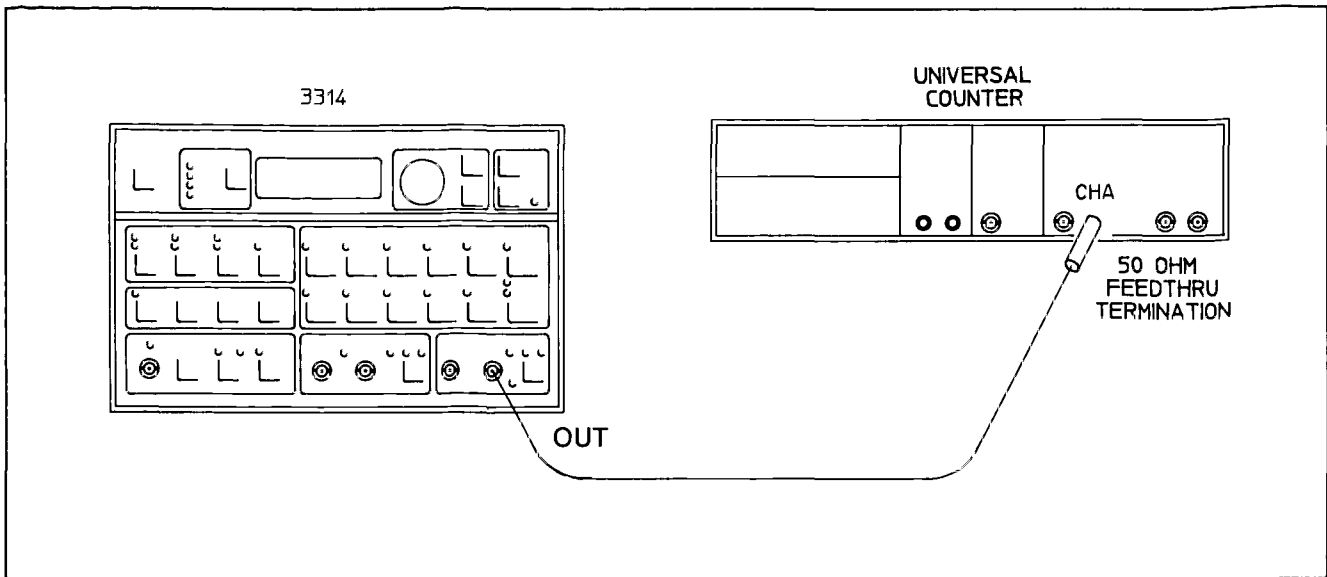

Figure 4-1. Frequency Accuracy Test
- D. Connect the output of the 3314A to the Counter input (see Figure 4-1).